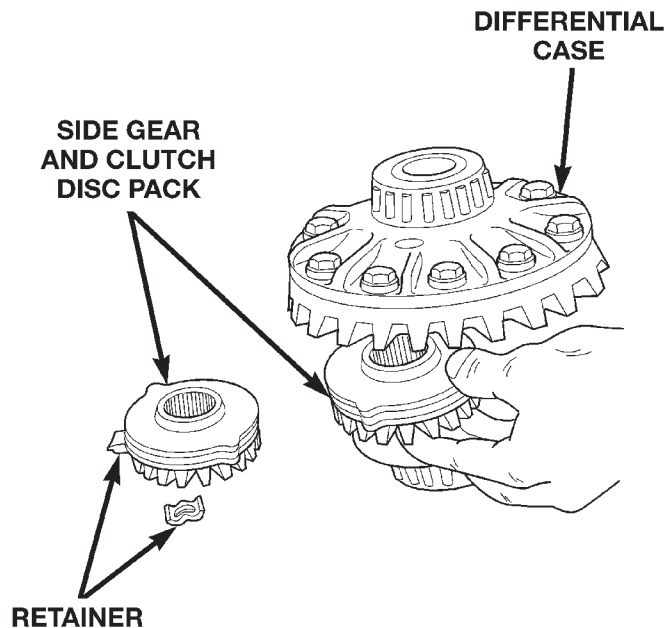

Fig. 48 Side Gear & Clutch Disc Removal
(15) Remove Forcing Screw C-4487-2, Step Plate 8139-2, and Threaded Adapter 8139-1.
(16) Remove top side gear, clutch pack retainer, and clutch pack. Keep plates in correct order during removal (Fig. 48).